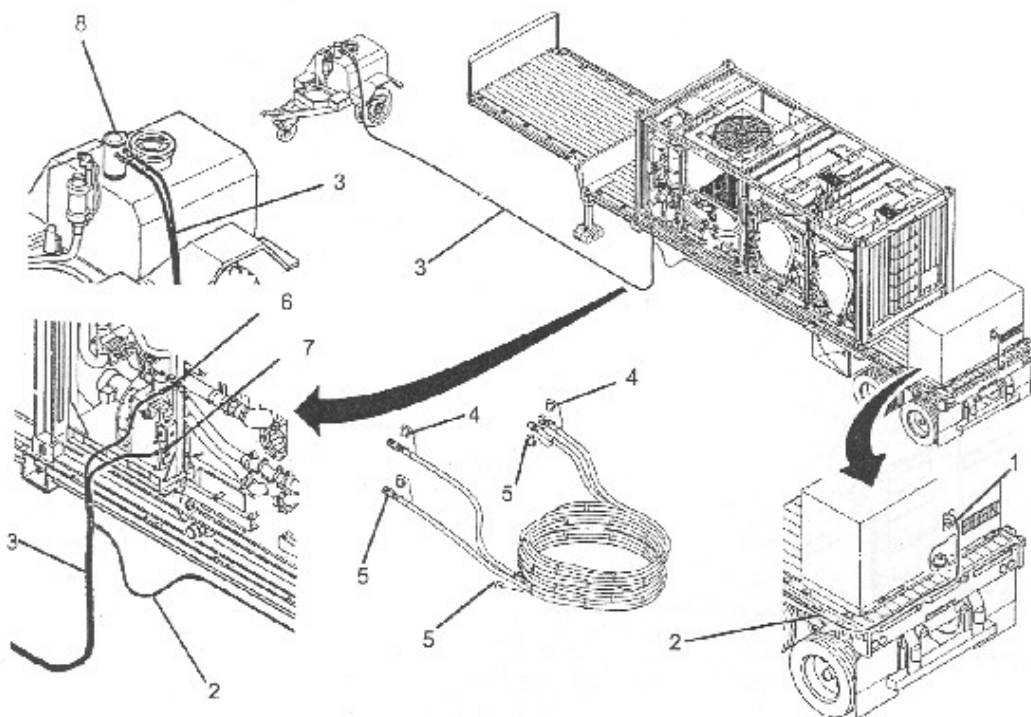

Figure 3-57
- (2) Disconnect fuel hose from adapter.
- (3) Roll fuel hose back towards fuel hose.
- (4) Disconnect fuel hose from fuel hose.
- (5) Install dust plug and cap on fuel hoses.
- (6) Disconnect fuel hose at inlet port and outlet port.
- (7) Install dust plugs and caps onto fuel hose, inlet port, and outlet port.
- (8) Roll up fuel hose whole draining fuel back into fuel supply.
- (9) Disconnect fuel hose at fuel probe.
- (10) Remove fuel probe from fuel supply. (See Figure 3-57)